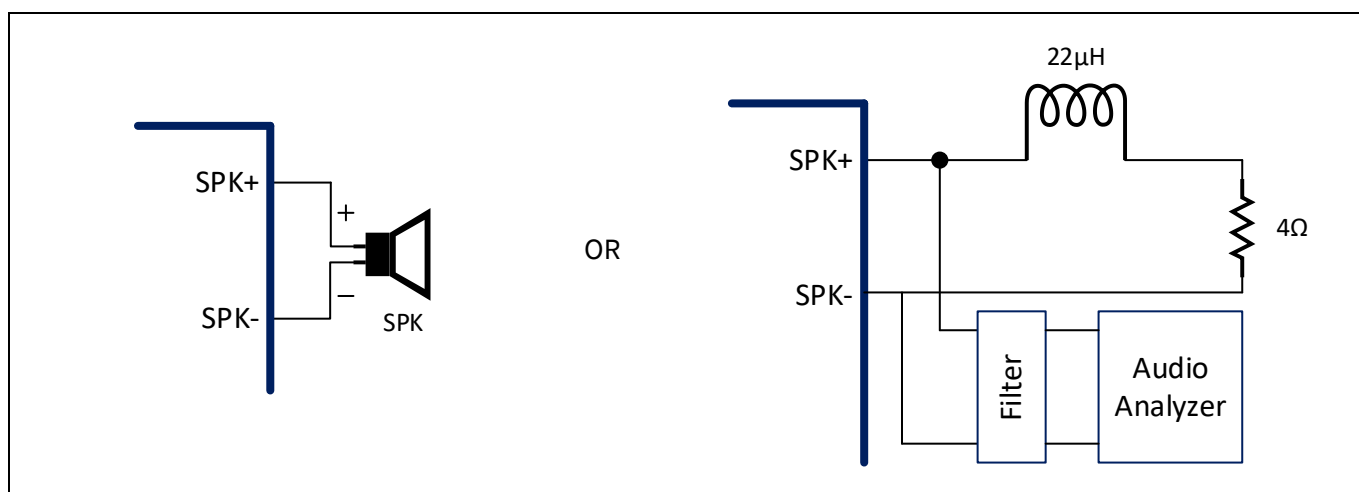

Figure 1 Setup for “speaker test” or “datasheet spec test”
2. Loudspeaker and speaker wires, as shown in Figure 1
In addition, for datasheet spec testing, as shown in Figure 1: